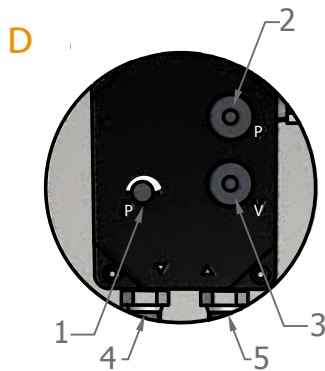

Fig. 7
c) Using a hexagonal Allen wrench no. 4, turn the knob to the left to the end as in Fig. 7, element 1, and then turn the wrench clockwise 1 – 1.5 turn to the right.
NOTE: Watch for proper installation of fuel supply line (Fig. 7 element 5) and fuel return line (Fig. element 4) as per Fig. 7.